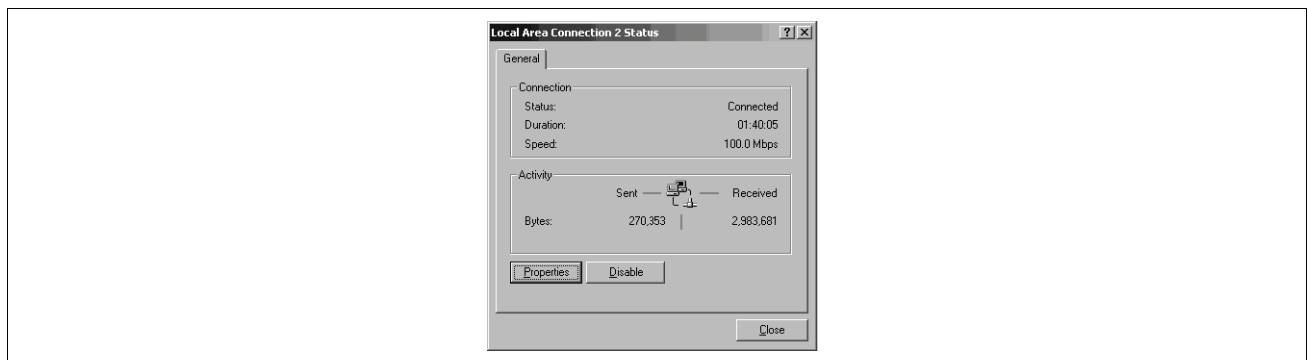

Figure 10. Local Area Connection Status Screen
2. Select **Local Area Connection** and the status screen displays (Figure 10).